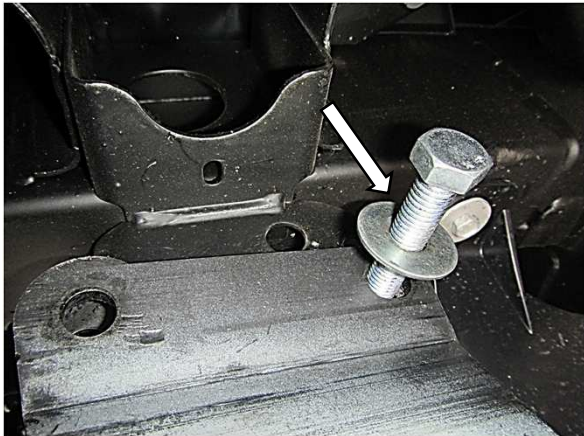

Figure 3
STEP-3 Position driver side bracket using $\frac{1}{2}$ x 4" hex head bolt, (2) $\frac{1}{2}$ " flat washer, $\frac{1}{2}$ " lock washer and $\frac{1}{2}$ " hex nut, driver side (Figure 3&4) Leave the nuts and bolts loose for final adjustment.